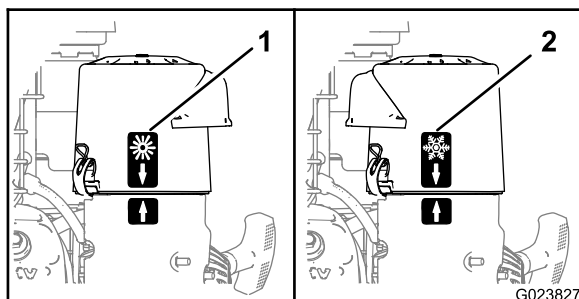

Figure 20
- When operating in a cold ambient air condition (cold air temperature and humidity), position the air-cleaner cover with snowflake decal facing out (Figure 20).
- When operating in a normal ambient air condition, position the air-cleaner cover with sun decal facing out (Figure 20).